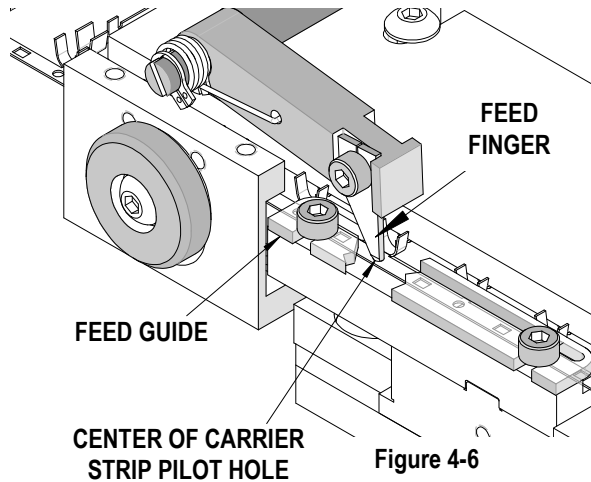

Figure 4-6
1. Typically, terminals are fed by the carrier strip pilot hole. In this case, position the feed finger to align to the center of the carrier strip pilot hole. See Figure 4-6.